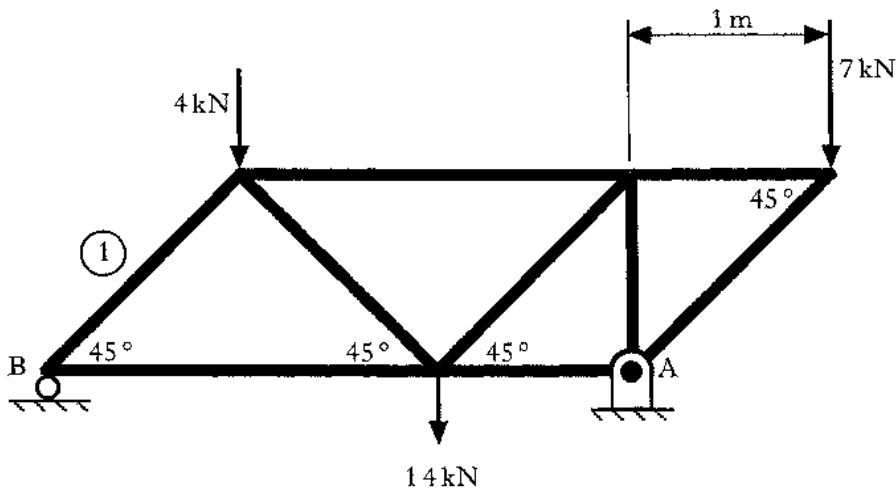

Figure Q5
5. One side of a loaded structure is shown in Figure Q5. The structure is pin-jointed, with a hinge at point A and a roller support at B.